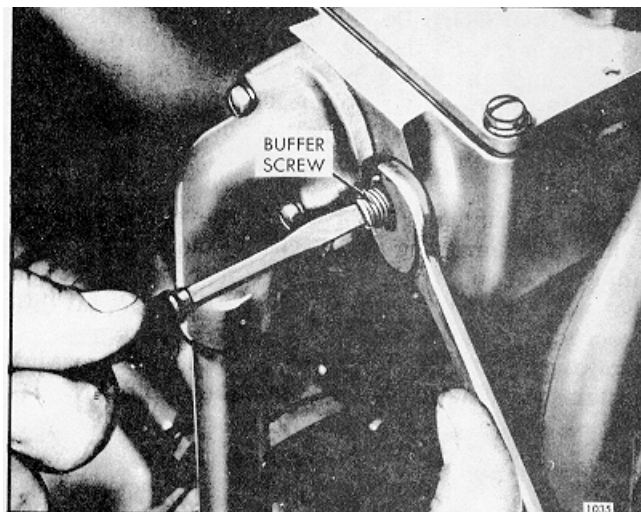

Fig 12 - Adjusting Buffer Screw
Do not raise the engine speed more than 20 rpm with the buffer screw, otherwise it may not be possible to stop the engine. Hold the screw (46) and tighten the lock nut, Fig. 12. Stop and start the engine several times to be sure of its stopping.